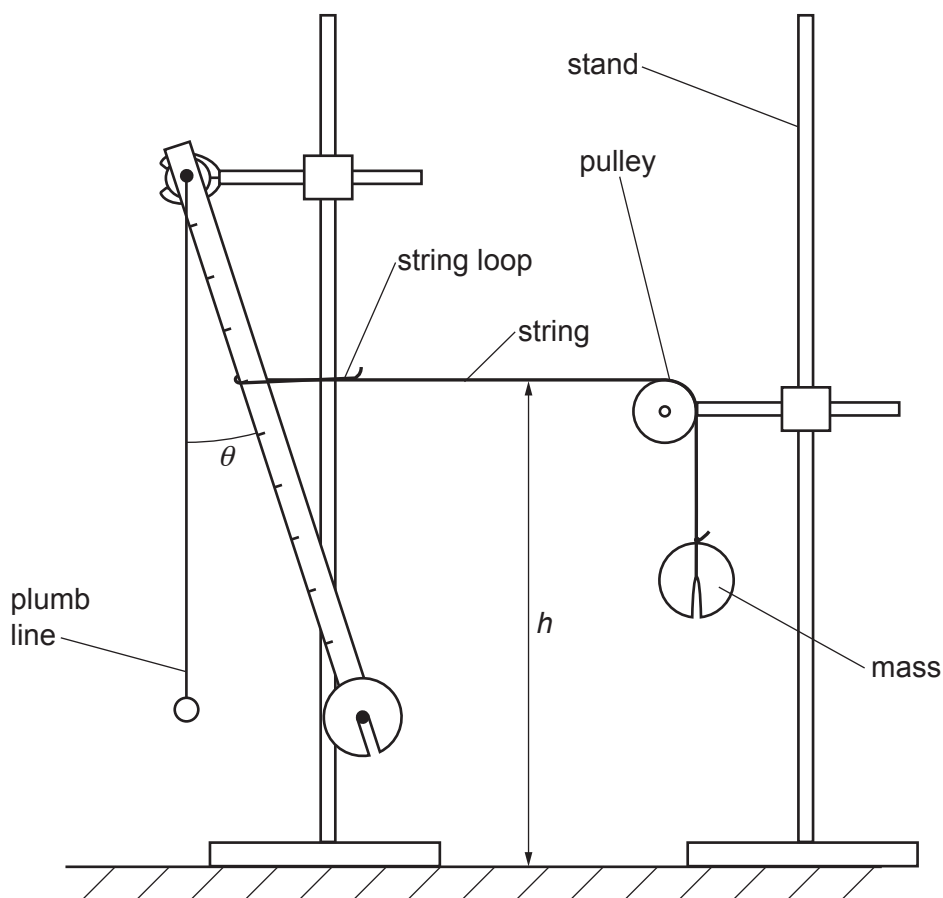

Fig. 1.2
- (ii) • Assemble the remaining apparatus as shown in Fig. 1.2. Place the string loop in a notch near the mid-point of the rod.
- The height of the string above the bench is h , as shown in Fig. 1.2. Measure and record h .
- The angle between the plumb line and the rod is θ , as shown in Fig. 1.2. Measure and record θ .